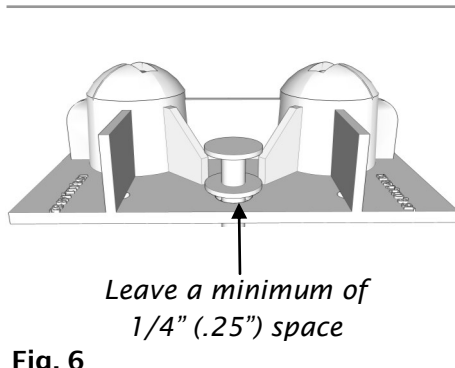
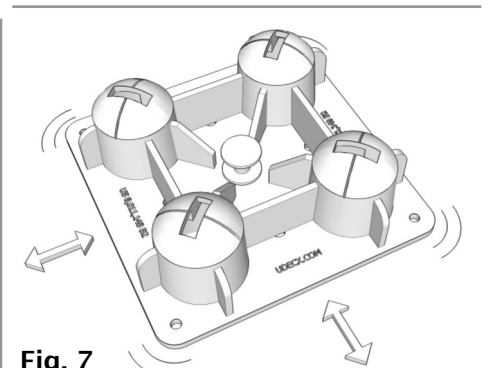

Fig. 6
Fig. 7
LEAVE SPACE between the head of the Anchor Spike (D) and the top of the Pier (A). (Fig. 6) This provides wiggle room for adjusting the location of the Pier (A) when necessary. (Fig. 7) Level Pier (A) in each direction.